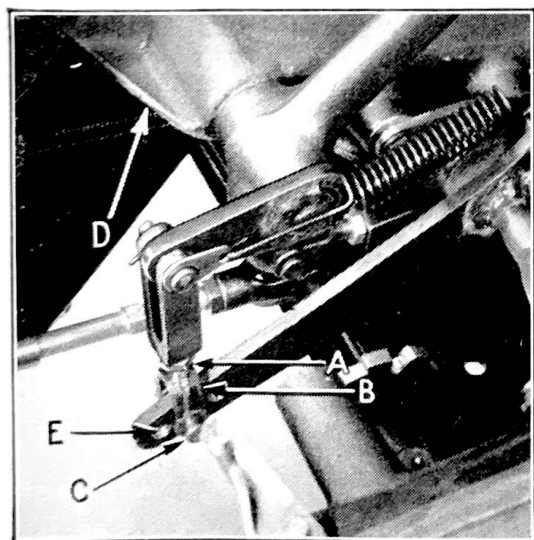

Figure 30
The clutch pedal and brake pedal shaft bushings should be lubricated every 1,000 miles with viscous chassis lubricant through the grease fitting (D), Fig. 30, reached from underneath the car on the left hand side.
Clutch Pedal Adjustment to assure $1\frac{1}{2}$ " clearance between clutch pedal and floor board is made by loosening lock nut (A), Fig. 30, removing cotter pin and clevis pin (C), and turning yoke (B) to increase or decrease the clearance as required. Replace clevis pin, cotter pin and tighten lock nut securely.